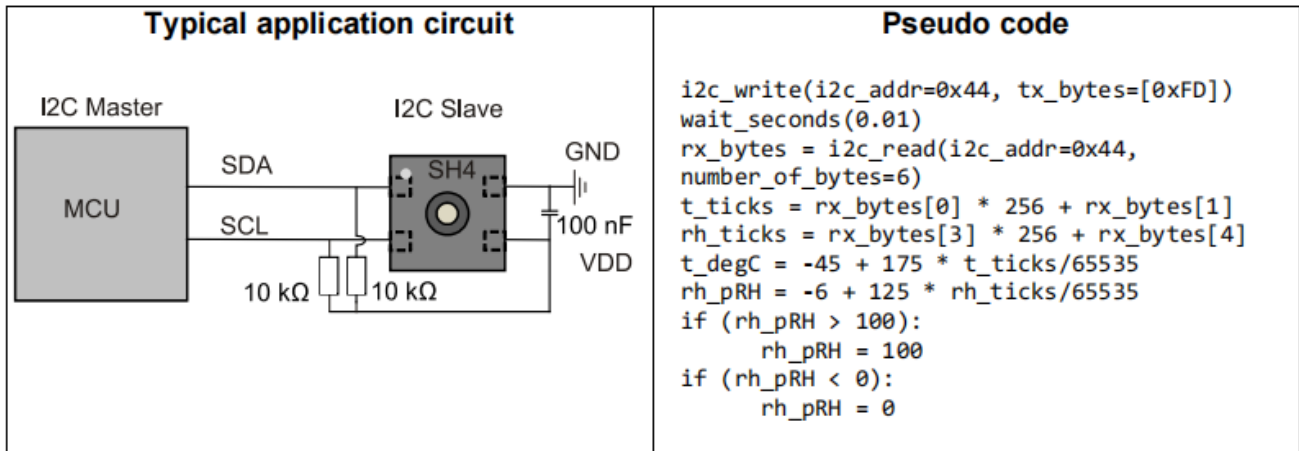

Figure 1: Typical application circuit (left) and pseudo code (right) for easy starting.
A typical application circuit for SHT4x is shown on the left-hand side of Figure 1. After reaching the minimal supply voltage and allowing for the maximal power-up time of 1 ms the sensor is ready for I2C communication. The quickest way to measure humidity and temperature is pseudo-coded on the right-hand side of Figure 1. Together with the conversion formulae given in equations (1), (2), and (3), the digital signals can be translated into relative humidity and temperature readings.